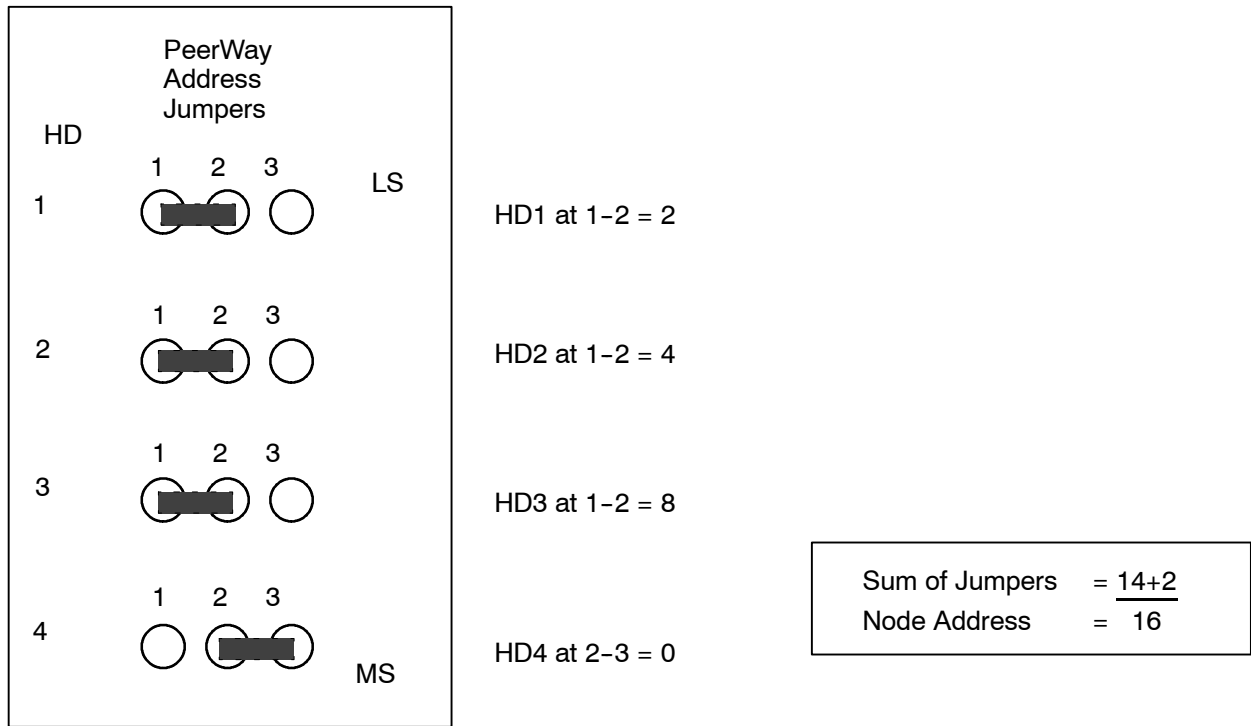

Figure A.4. Setting the Node Address Jumpers
Figure A.4 shows the jumper setting for a PeerWay node address of 16. The name of each jumper is marked at the right of the jumper. The least significant (LS) jumper is at the top and the most significant (MS) is at the bottom. A jumper has the listed value in the (1-2) position and a 0 value in the 2-3 position. Total the values and add 2 to get the node address.